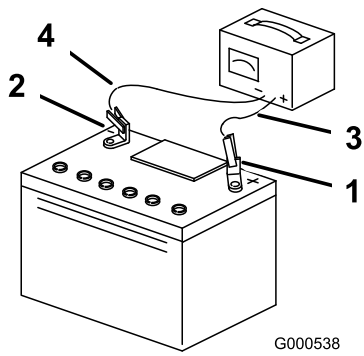

Figure 45
5. When the battery is fully charged, unplug the charger from the electrical outlet, and disconnect the charger leads from the battery posts (Figure 45).